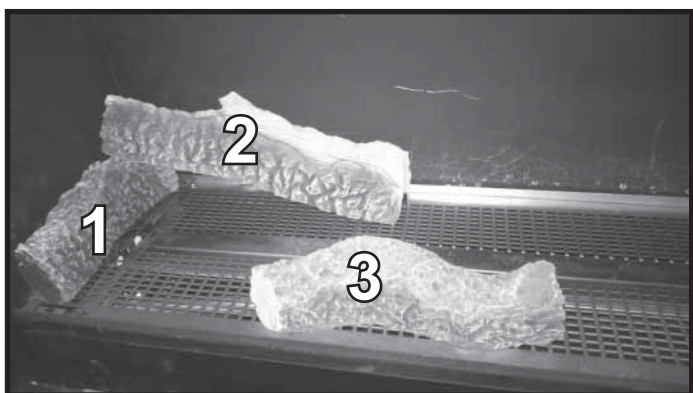

Figure 8. Log #3 (SRV2331-708)
14. **LOG #3 (2331-708):** Install Log # 3. Install log onto shoulder screws #4 and #5 by lining up shoulder screws with holes in bottom of log. See Figure 8.